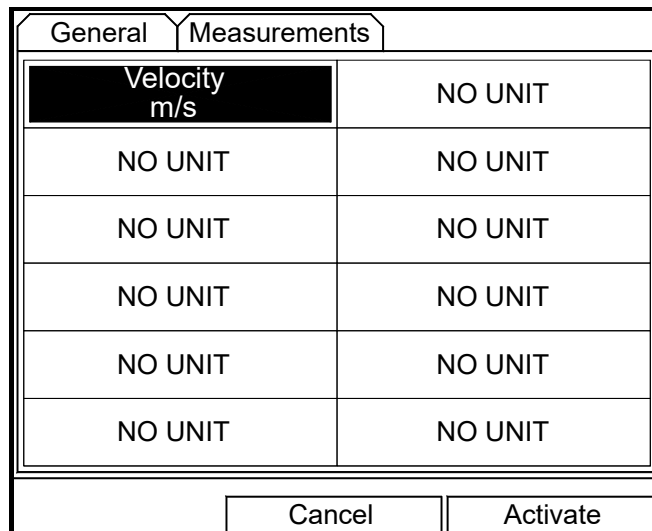

Figure 77: Measurements and Units Selected
- c. Finally, press the [▶] key to move to the Measurements tab, and press [ENTER]. The Measurements window appears similar to Figure 77 on page 67.
5. Press **[F3]** (OK) to confirm your selection. A screen similar to Figure 77 appears.